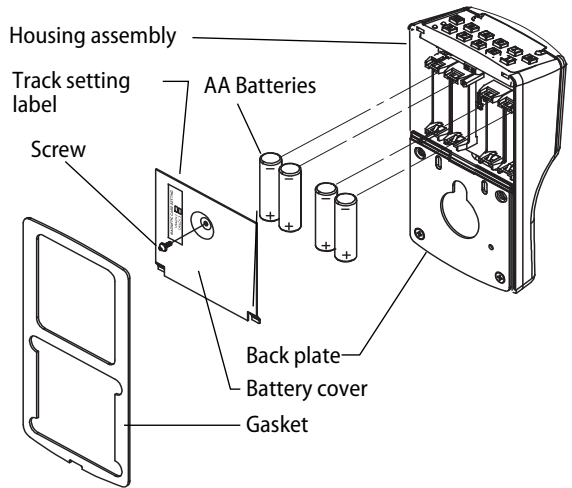

Figure 11 Installing batteries
- 1 Remove the gasket from the rear of the housing assembly as shown in Figure 11.
- 5 Replace the battery cover. See Figure 11. Make sure that the tabs on the lower edge of the battery cover are hooked over the edge of the back plate and secure the cover with the screw.
- 6 Replace the gasket. See Figure 11. Make sure that it is inside the edge of the housing.
A label on the housing assembly battery cover indicates the magnetic card track (track 2 or track 3) that the system is set to read. See Figure 11.